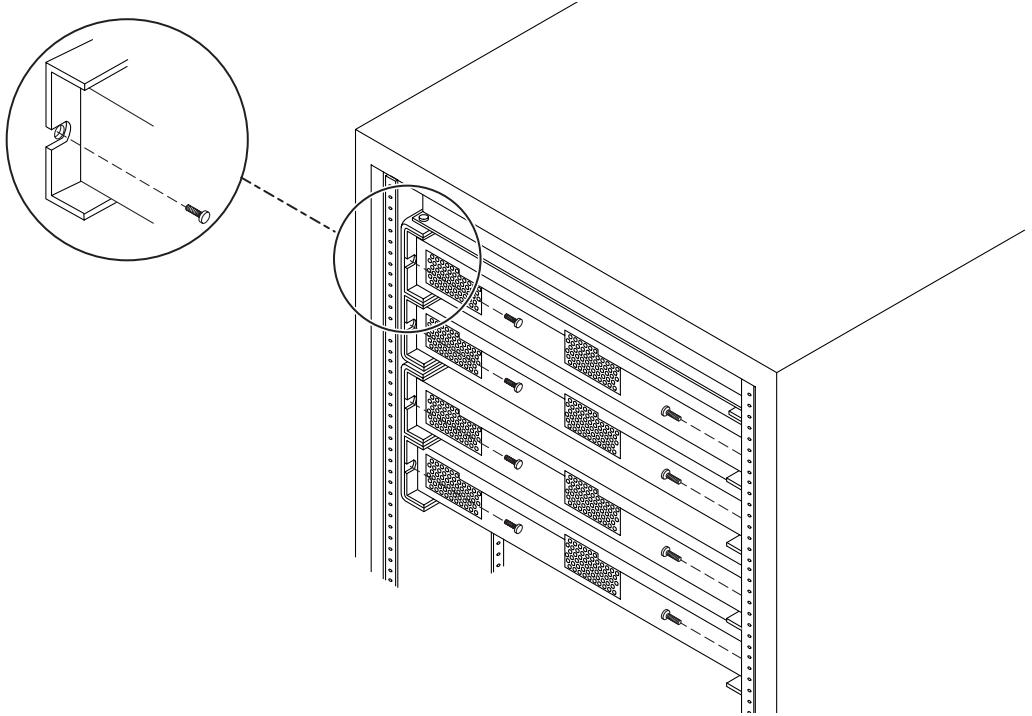

FIGURE 3-4 Installing Four 8-Port Switches Into the Mounting Rails
2. **Insert the front lockdown screws (see FIGURE 3-4).**